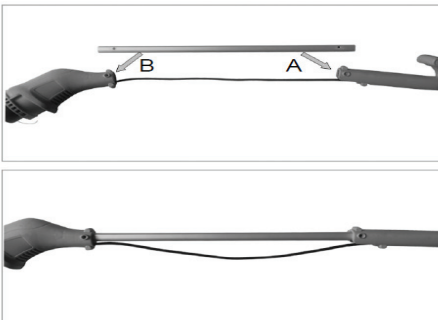

Fig 1
- Attach the bottom and top sections of string trimmer to the connection tube. (Fig 1)